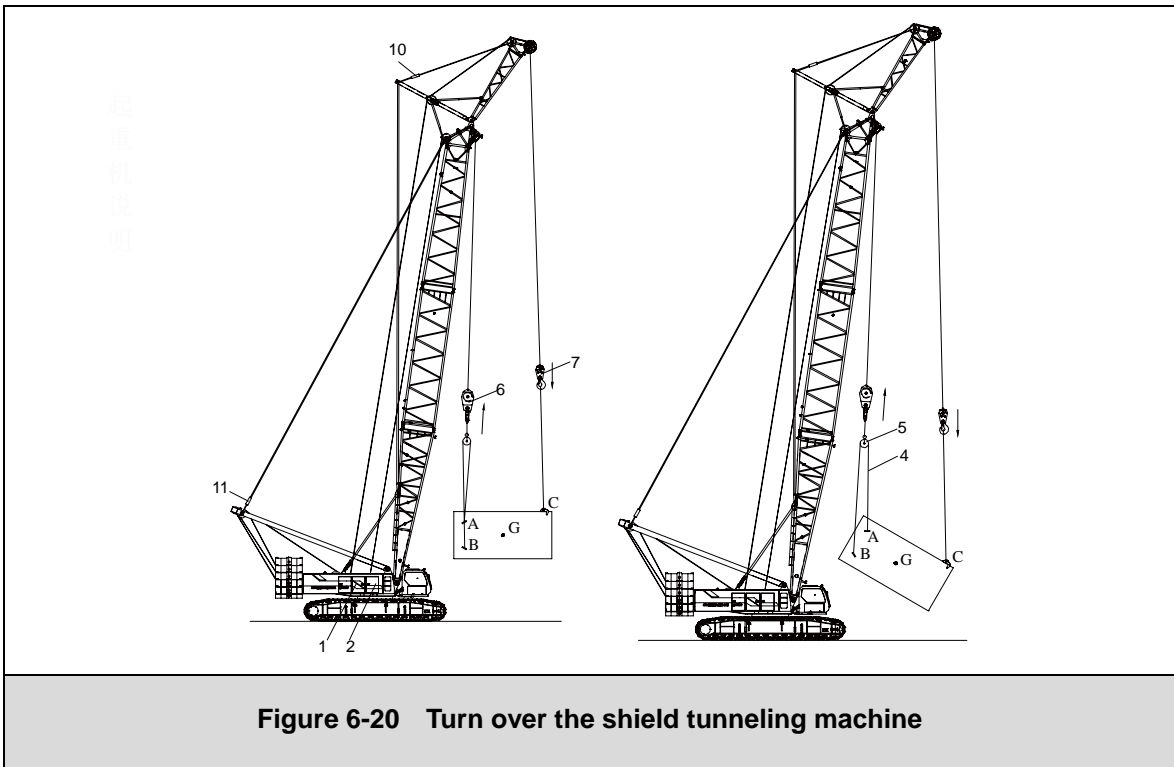

Figure 6-20 Turn over the shield tunneling machine
Stop the lifting motion of main load hook (6), lower the auxiliary load hook (7) slowly and make chain of wire rope slide in pulley (5) until the points A and B of shield tunneling machine are in horizontal plane. Keep all the motions stably. The turning-over of shield tunneling machine is finished. (See Figure 6-20)